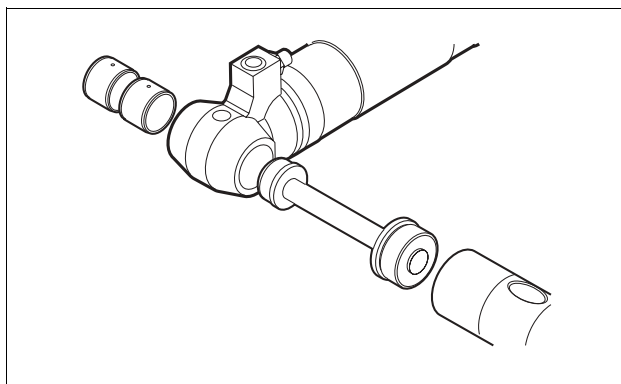

Fig. 41 Remove the bushings
4. Remove the bushings. *See Fig. 41.*